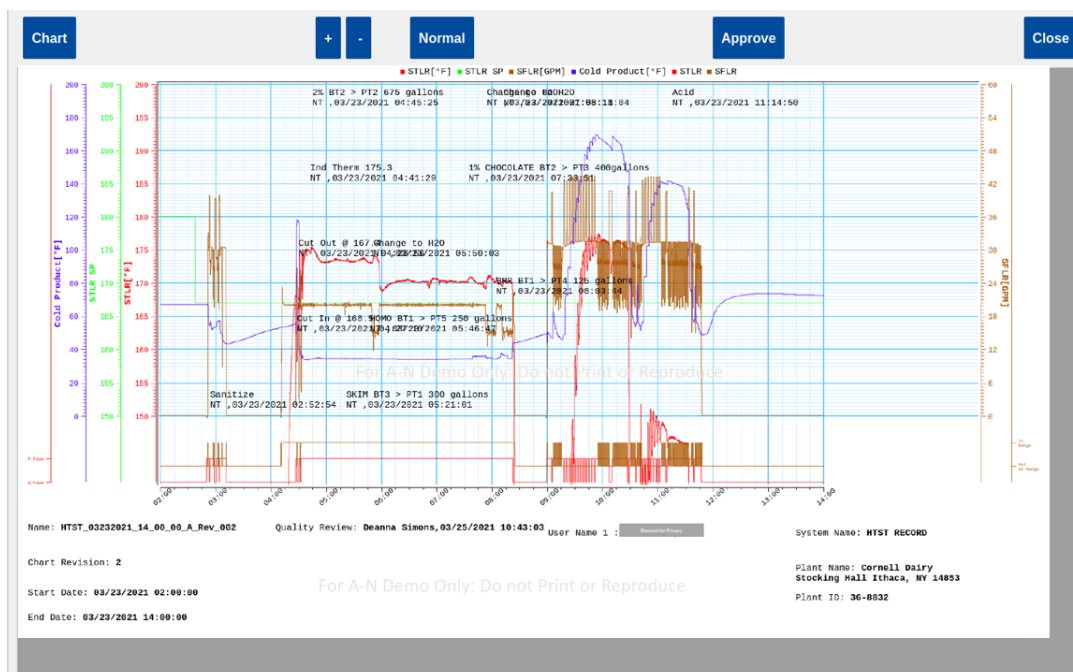

Figure 55: Record Image On PPR
4. A screen will appear like the one shown in Figure 55 above.